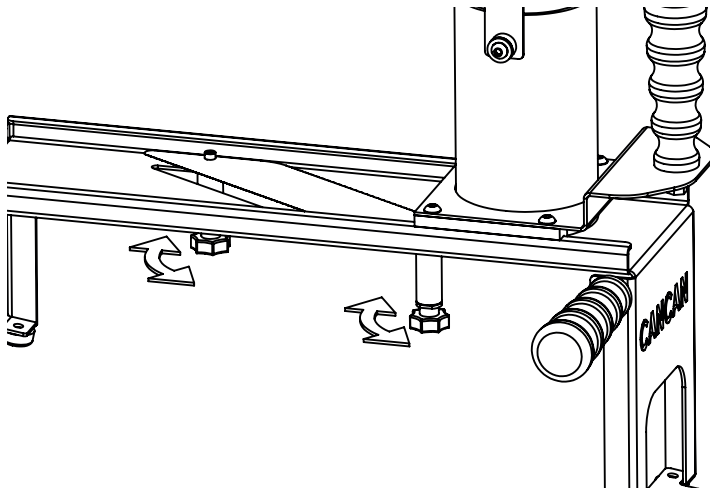

Figure 4.2.4
- Adjust the desired thickness by turning clockwise or counterclockwise. (If you turn it counterclockwise, you will reduce the thickness.) Turn the two bolts at a same range to ensure that every sides of the slice of the fruit/vegetable has equal thickness. **(Figure 4.2.4)**